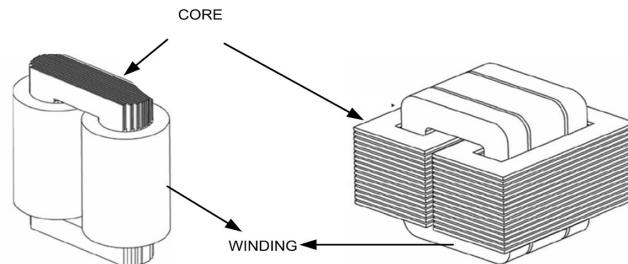

Fig. 6.3: (a) Core type transformer. (b) Shell type transformer
Depending upon the arrangement of the core and the windings, there are two main types of the transformer: Core type and Shell type. Fig. 6.3 shows the two types of transformers.
- The core type transformer is built of laminations to form a rectangular structure as shown in Fig. 6.3 (a) and provides a single magnetic circuit.